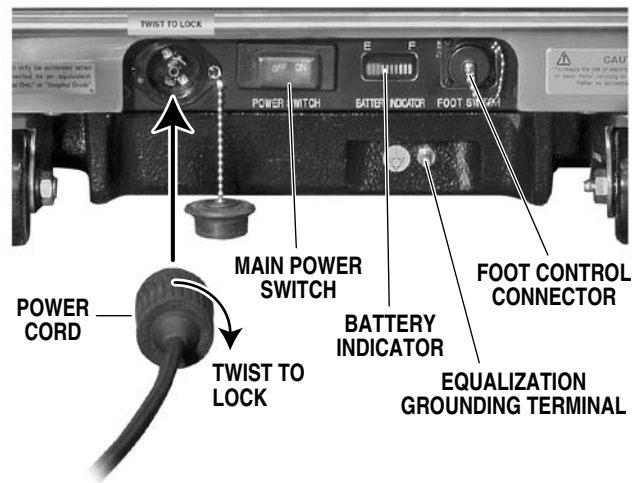

Figure 2-1. Electrical Panel
a. Make sure the Power cord is securely attached to the table. To install the power cord, align the cord connector with the base connector, insert the cord and twist clockwise to lock the cord into the connector. See figure 2-1. Plug the cord into a properly grounded, Hospital Grade, 120VAC outlet. Make sure the power cord is routed to the outlet to prevent it from being in the way of operating personnel.